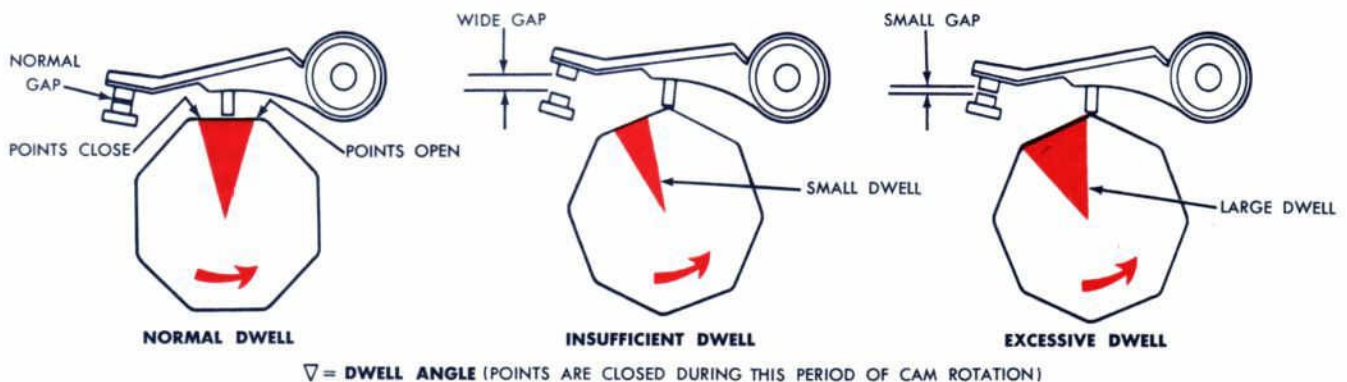
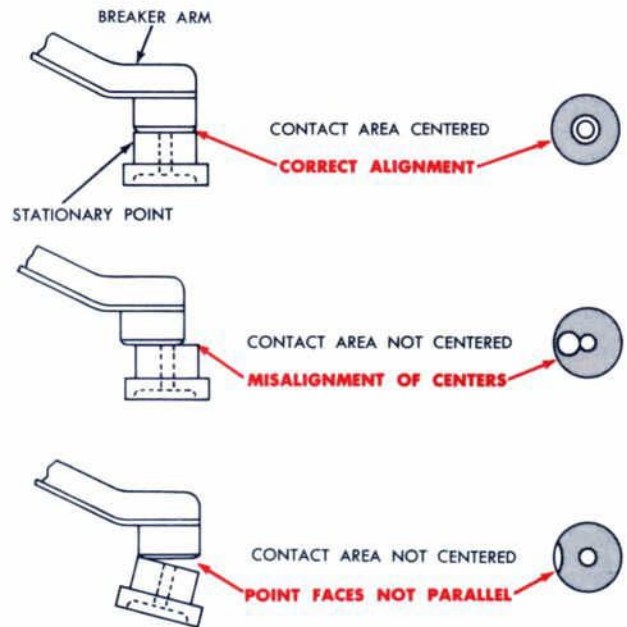

Fig. 7—Breaker Point Dwell
Fig. 8—Breaker Point Alignment
5. Point opening too small (cam angle too large). As shown in Fig. 7, this means the points are closed too long during the total operating time allowing excessive current flow. There are several things that can cause a diminishing breaker point gap (increased dwell). Among these are worn cam lobes, rubbing block and distributor shaft bushings. Misaligned points (Fig. 8) can also cause similar problems, since the current flows only through a portion of the face. They can be corrected by bend-